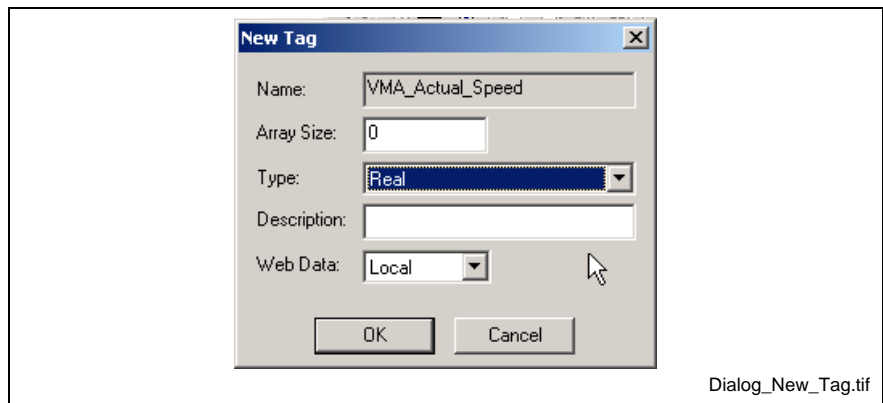

Fig.5-14: Dialog New Tag
- Now the dialog **New Tag** appears. Select type **REAL**. See "Fig.5-14: Dialog New Tag"